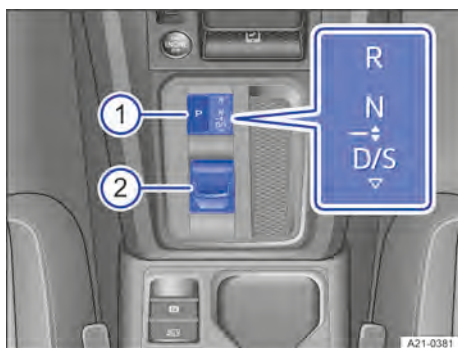

Fig. 92 In the centre console: selector lever for the automatic transmission with button for parking lock.
The selected position is shown on the instrument cluster display and on the lower part of the centre console when the ignition is switched on → Fig. 92.
1. Press the button **P** → Fig. 92 ①.
1. Tap the selector lever → Fig. 92 ② backwards.